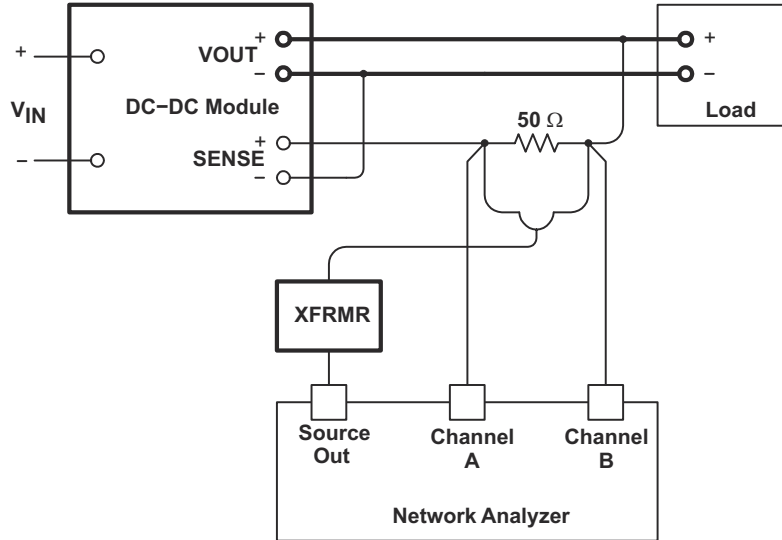
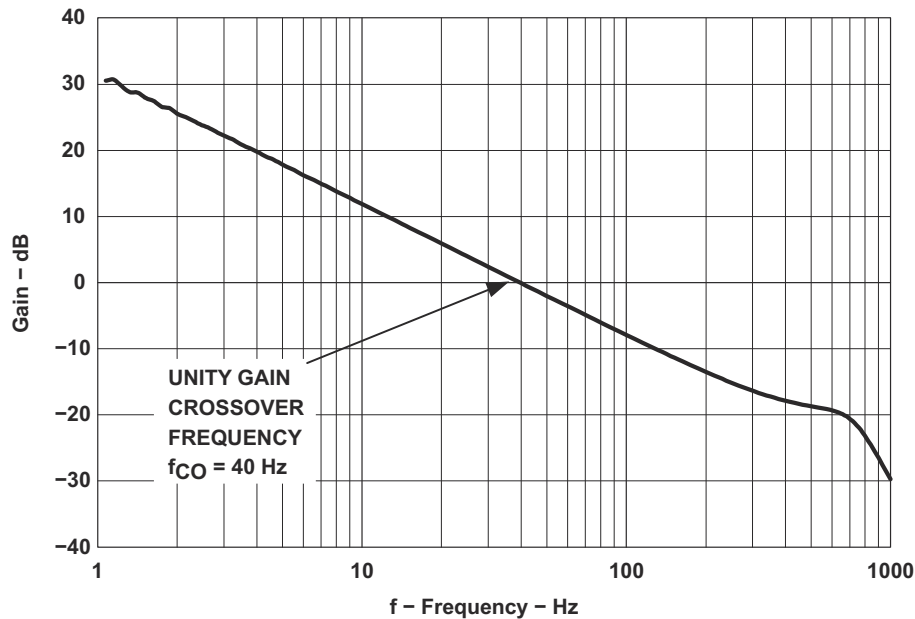

Figure 7-4. Connection Diagram for Unity-Gain Crossover Frequency Measurement
Figure 7-5. Power Module Bode Plot
Using the test configuration shown in Figure 7-4, measure the unity-gain crossover frequency of each power module to be paralleled. Set the load to the maximum output current ($I_{OUT(max)}$) to be shared by each module. Figure 7-5 shows a typical resultant Bode plot. Select the plot with the lowest 0dB crossover frequency and assign that frequency to $f_{CO(module)}$ for design use.
The total load-share loop unity-gain crossover frequency, f_{CO} , must be set at least one decade below the lowest measured crossover frequency of the paralleled modules previously measured, $f_{CO(module)}$ (see Figure 7-5). Compensation of the transconductance error amplifier is accomplished by connecting a compensation resistor, R_{EAO} , in series with a capacitor, C_{EAO} , between EAO and GND. Use Equation 8 and Equation 13 to calculate the values of these components. C_{EAO} is calculated first.
- $G_{MODULE}(f_{CO})$ is the measured value of the gain (in dB) from Figure 7-5, at the targeted load-share crossover frequency.